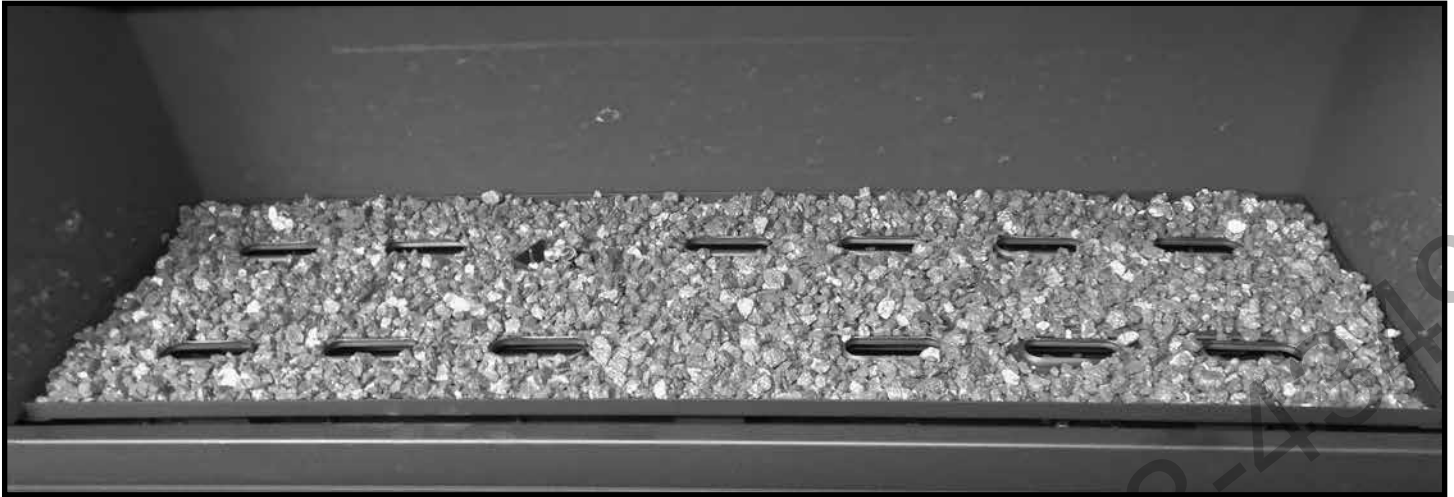

Figure 58: Vermiculite spread evenly over burner tray.
1. Spread vermiculite evenly over the surface of the burner tray. Use as much Vermiculite as is needed to fully cover the burner tray but not so much that the vermiculite spills over into the air flow ports (Figure 58).